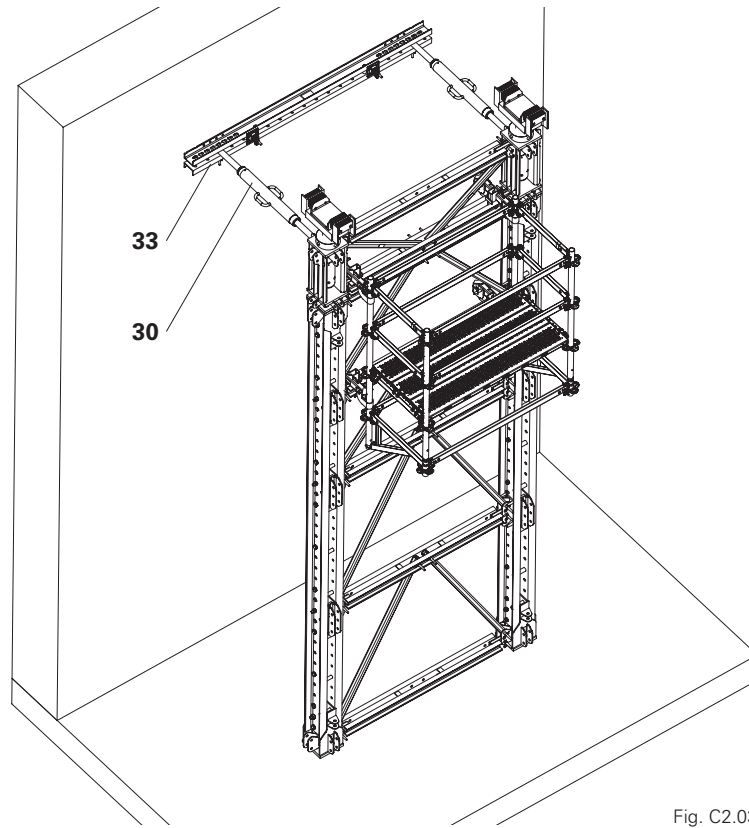

Fig. C2.03
- In order to keep the module in a horizontal position, the anchor holes on the abutment/pier can be used, e.g. with steel waler SRU U120 (48) and heavy-duty spindle SLS (30). (Fig. C2.03)